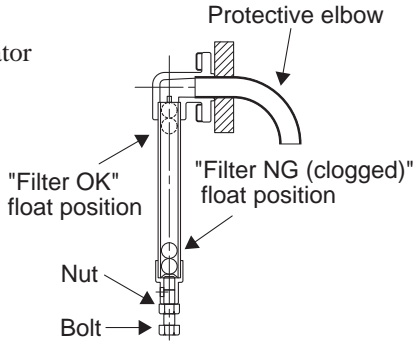

Fig.1 Structural diagram
As shown in Fig. 1, the float position should be checked when the power is turned ON. The upper part of the float is red and the bottom part is green. When the filter is in good condition (not clogged), the float's green part is visible. When clogged, the red part is visible.
① Loosen the Fig. 1 nut.
② Adjust the Fig. 1 bolt as follows: